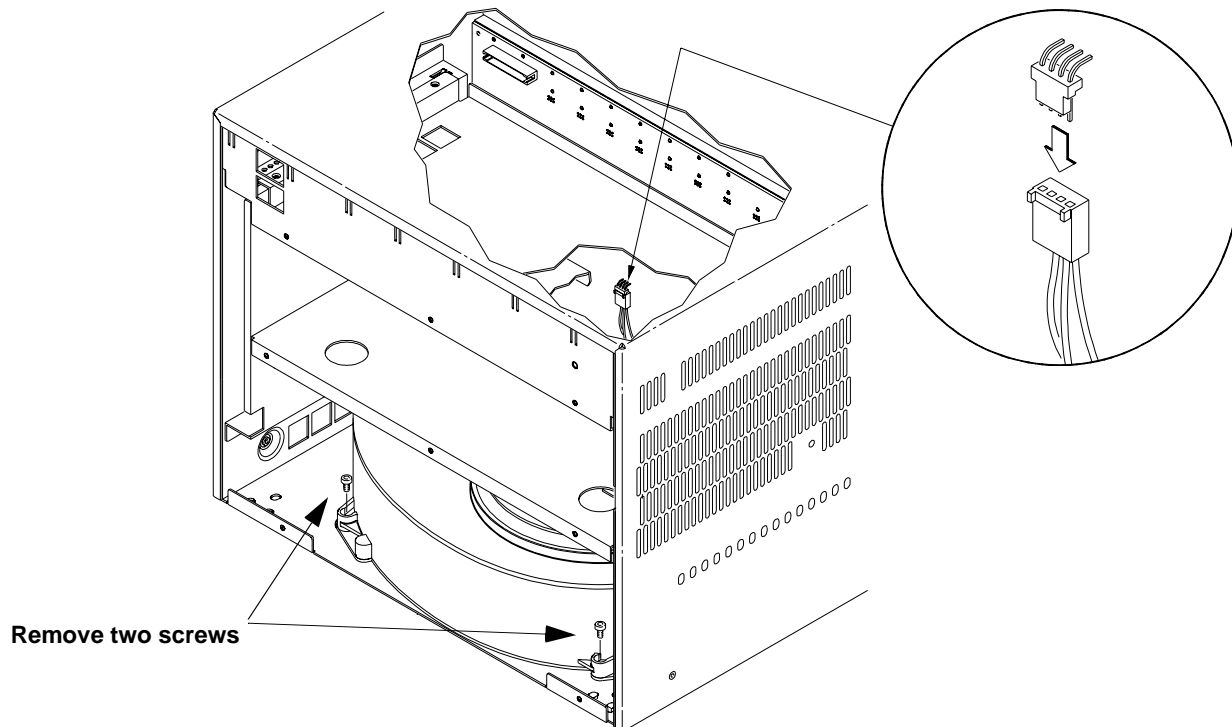

Figure 3-6. Removing / Installing the Impeller.
3. Disconnect the impeller wires from the backplane by gently pulling down on the wire housing (Figure 3-6). Note the position of the connector for re-installation.
5. Lift the impeller assembly off the screw locators and gently pull the impeller assembly out from the mainframe (Figure 3-6).